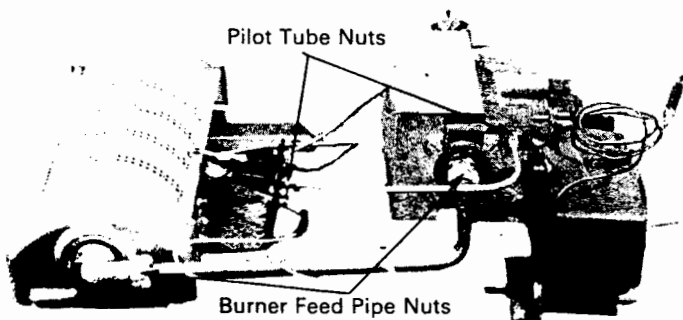
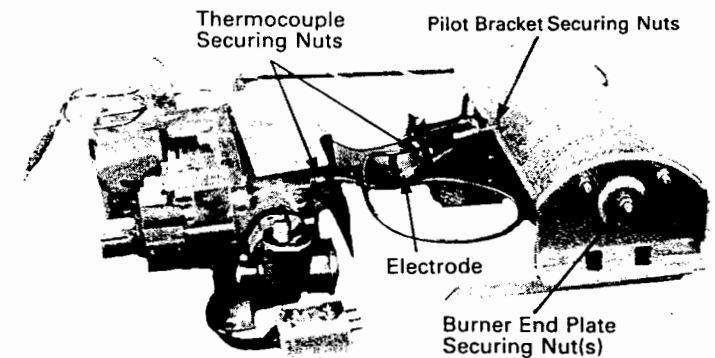

Fig. 19. Burner and Controls (2)
Fig. 18. Burner and Controls (1)
12. **Clean the Burner (Fig. 18 and 19)**
- (b) Remove the nuts and washers securing the pilot bracket to the burner (Fig. 18).
Thermocouple (Fig. 18)
Spark Electrode (Fig. 18)
Piezo Unit (Fig. 19)
Burner (Fig. 18 and Fig. 19)